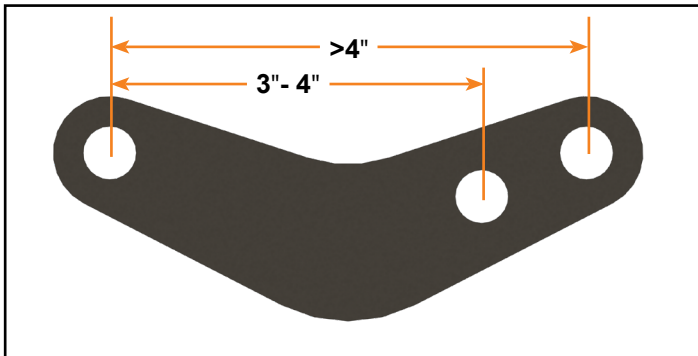

Fig.3
5. If the original shackle measures between 3" and 4", use the short set of holes on the replacement shackles (Fig.3). If the original shackle measures longer than 4", use the longer set of holes on the bracket (Fig.3).